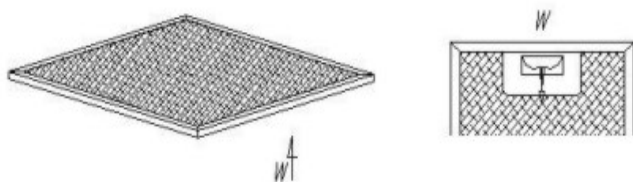

Fig. 5
2. BYTE AV FETTFILTER (fig 5).